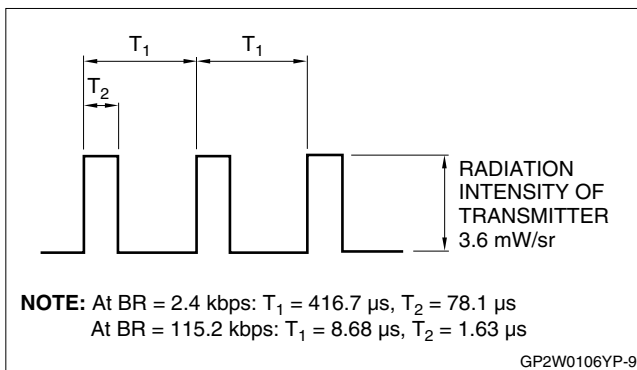

Figure 9. Input Signal Waveform (Detector Side)
3. $I_{OH} = 20\ \mu\text{A}$. See Figures 9, 10, and 11.
4. BR = 115.2 kbps, $\phi \leq 15^{\circ}$. See Figures 9, 10, and 11.
5. BR = 115.2 kbps, $\phi \leq 15^{\circ}$, $T_{OPR} = 25^{\circ}\text{C}$. See Figures 9, 10, and 11.